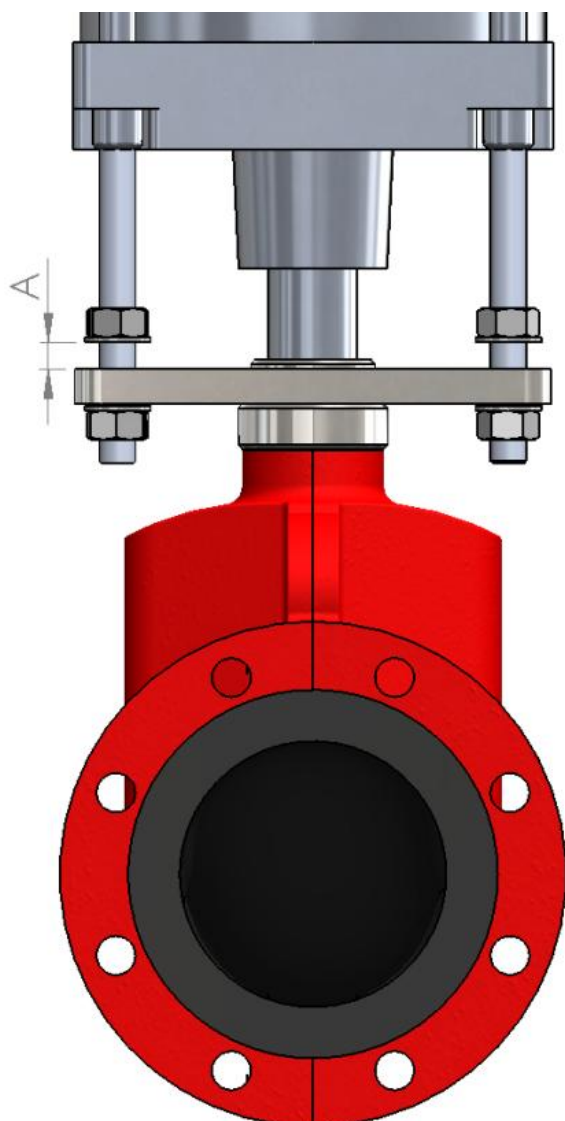

Figure 19. Measuring the compression value.
6. Adjust the actuator upper nuts (2) to achieve the needed squeeze for the sleeve. Check the correct value for dimension A from the Table 9. Needed squeeze for the valve sleeves (dimension A on the Figure 19. Measuring the compression value.)
Table 9. Needed squeeze for the valve sleeves (dimension A on the Figure 19. Measuring the compression value.)